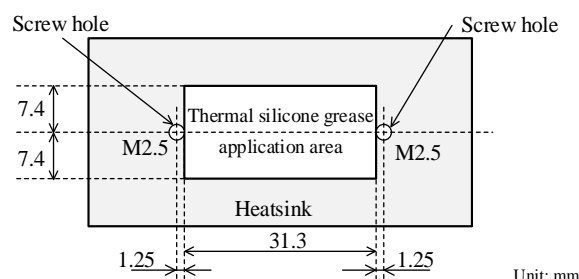

Figure 13-2. Reference Application Area for Thermal Silicone Grease
- Apply silicone grease within the area indicated in Figure 13-2, below.